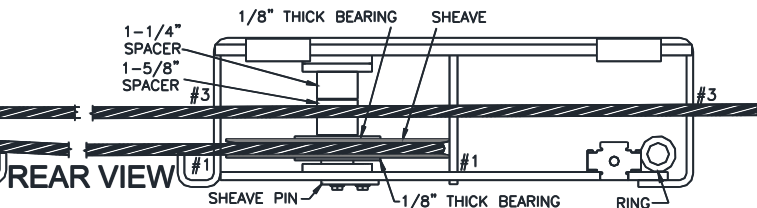
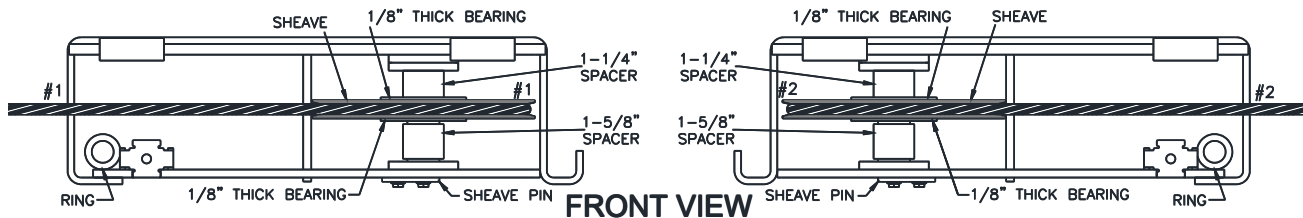
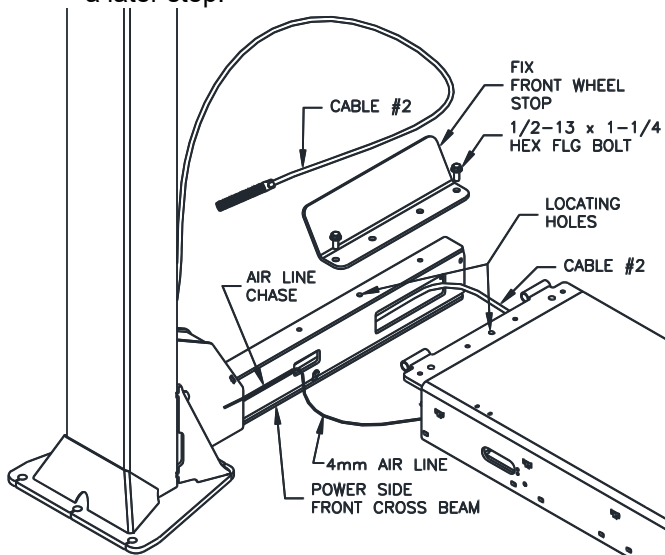
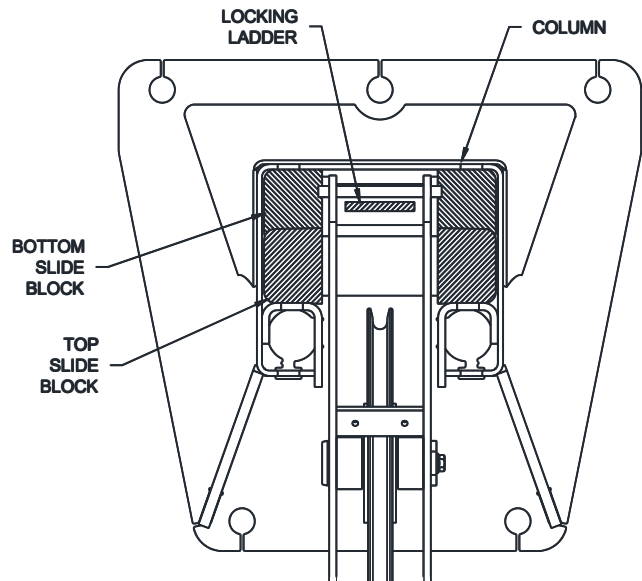

Fig 5 – Idler Runway Single-Stack
Fig 6 – Idler Runway Single Stack
Fig 11 – Front CrossBeam Installation
Fig 13 – Locking Ladder Orientation
- 8) Reinstall the idler runway sheaves. Assemble as shown in **Fig 5 & Fig 6**.
- 10) The runways to crossbeam can be located using a tapered punch to pry on the locating holes in the runway and crossbeam **NOTE:** The locating holes are not threaded. See **Fig 11**.
- 24) Repeat Steps 6-11 for Front Crossbeam and Columns. For Flat decks, install the wheel stops before tightening runway bolts in Step 12. See **Fig 11**. Alignment Wheel Stop will be installed in a later step.
- 28) Ensure that the power side front crossbeam is touching the power column base plate and stand the column up. Insert the Lock Ladder into the slot, **Fig 13**, and reinstall the Column Top Plate and pins. Move the column into position and remove the crossbeam sheave. Reach in through the small access hole in the crossbeam tube, **Fig 11**, and pull out the 6 ft. roll of 4mm dia. plastic air line connected to the air cylinder at the end of the crossbeam. Feed cable #2 into the crossbeam's large access hole and back out the top, **Fig 11**. Insert the air line into the first Ring in the runway end. See **Fig 6 and 7** for ring location.